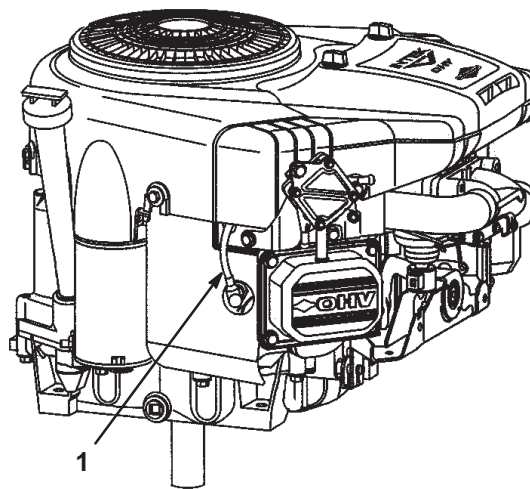

Figure 29
3. Pull the wire(s) off of the spark plug(s) (Fig. 29). Clean around the spark plug(s) to prevent dirt from falling into the engine and potentially causing damage.
3. Push the wire(s) onto the spark plug(s) (Fig. 29).